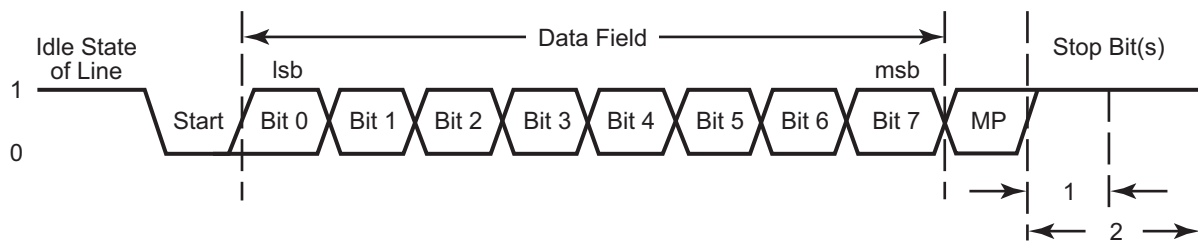

Figure 15. LIN-UART Asynchronous MULTIPROCESSOR Mode Data Format
MULTIPROCESSOR Mode (also referred to as 9-Bit mode), the multiprocessor bit (MP) is transmitted immediately following the 8 bits of data and immediately preceding the STOP bit(s) as displayed in Figure 15.